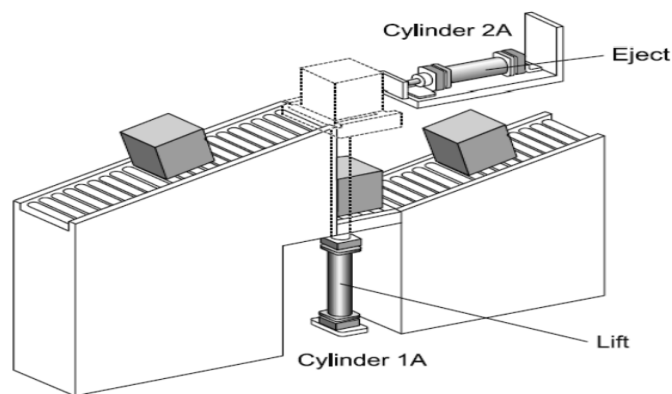

Figure 2 (b) / Rajah 2 (b)
- (b) Packages arriving on a roller conveyor as shown in Figure 2 (b), are lifted by Pneumatic Cylinder 1A and then pushed onto another conveyor by Pneumatic Cylinder 2A. The operation requires that Cylinder 2A can only return after Cylinder 1A has reached its fully retracted position.